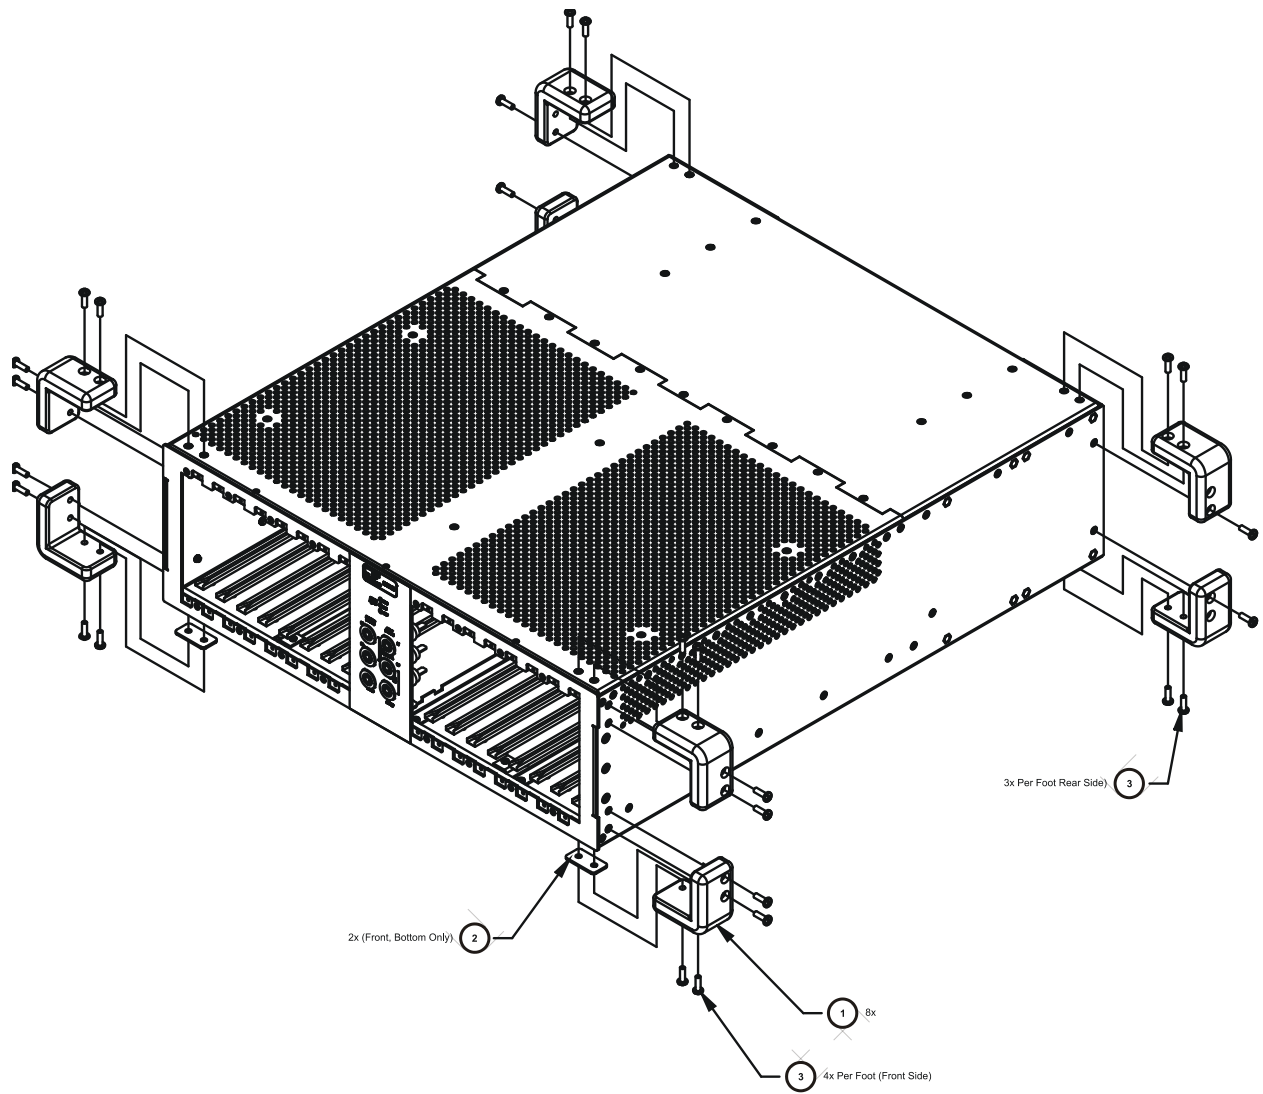

FIGURE 2-11: TABLE TOP FEET INSTALLATION DIAGRAM (EXPLODED FRONT VIEW)
- 2) Using Figure 2-11, locate the installation locations for each rubber foot. Note the location of the two shims (P/N: 41-0494-022) that are required for the two bottom, front locations.
- 3) Using the #2 Phillips screw driver, install the eight rubber feet using four (4) 6-32 x 7/16" pan head Phillips screws to secure the top and bottom and one (1) 6-32 x 1/2" pan head Phillips screw to secure side of each foot.
- 2) Using a #2 Phillips screwdriver, install the rack ears (P/N: 41-0494-010) on the front of the EX1208A using four (4) 6-32 x 3/8" flat head Phillips stainless steel screws (P/N: 37-0173-037) for each rack ear. Note that the "Optional Mounting Locations" in Figure 2-11 allow the EX1208A to be installed in a rack either flush or recessed.
- 3) Next, attach the unit support brackets (P/N: 41-0494-020) to the EX1208A using two (2) 6-32 x 3/8" pan head Phillips SEMS screws (P/N: 37-0028-037) for each bracket (see Figure 2-11).
- 4) Place the rear rack support brackets (P/N: 41-0494-021) on the inside of the unit support brackets installed in Step 3 and loosely secure them using two (2) 8-32 x 3/8" pan head Phillips SEMS screws (P/N: 37-0073-037) and two (2) KEPS hex nuts (P/N: 37-0200-832). Loosely installing the hardware will allow the rear support bracket to adjust to the proper length once installed in a rack.